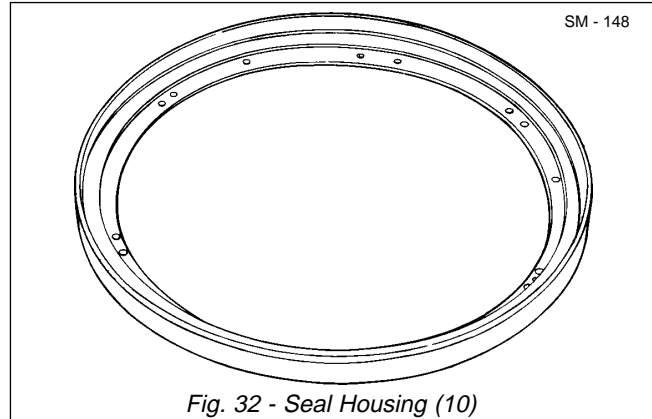
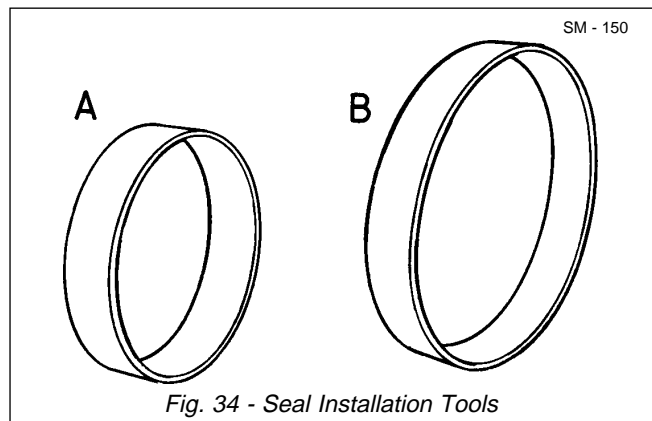

Fig. 32 - Seal Housing (10)
Fig. 34 - Seal Installation Tools
10. Install toric ring in other half of face seal and install in seal housing (10), toric ring side down. Refer to Figs. 32 & 33. Install seal installation tool (Fig. 34 'B') over face seal and press face seal into housing. See Fig. 35. Remove seal installation tool.
11. Coat 'O' ring (4) with grease and install in groove of disc driver (27). Apply a thin film of oil to metal contacting surface of face seal (11). Install seal housing (10), with half seal installed, over disc driver (27). Secure seal housing to disc driver with bolts (9) and hardened washers (55). Secure bolts (9) with lockwire (56).
12. Install one half of new face seal (3), toric ring side inward, over spindle. Using seal installation tool (Fig. 34 'A'), press seal into disc driver (27) by tapping tool with a soft hammer. Remove seal installation tool.
13. Install other half of new face seal (3), toric ring side inward, into inner seal housing (1). Using seal installation tool (Fig. 34 'A'), press seal into seal housing. Remove seal installation tool.
14. Coat 'O' ring (2) with grease and install in groove on spindle. Install inner seal housing (1), with face seal (3) installed, being careful not to damage 'O' ring (2).
15. Install new 'O' ring (4) in groove on wheel.
16. Install wheel driver (5) on wheel and secure with bolts (7) and hardened washers (6). Make sure 'O' ring stays in groove on wheel. Tighten bolts (7) to a torque of 1 207 - 1 240 Nm (890 - 920 lbf ft).
17. Install new 'O' ring (8) on wheel driver (5).